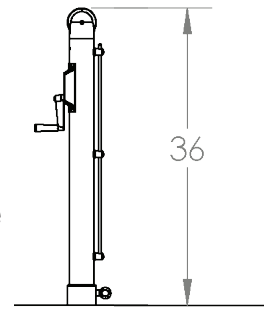

Figure 5
STEP 4: Loosen the eyebolt on the Height Collar and using a tape measure, adjust the height of the pickleball posts to 36". Retighten eyebolts. See Figure 5.